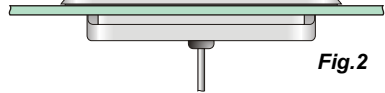

Fig.2
Step 2 - Connect the other module (MODULE “EN”) directly to a wi-fi router utilizing the included network cable and power adapter. (Fig.2)
Step 2 - Remove the double sided adhesive from the back of the spaside. Make certain the spaside is straight and adhere to the spa shell. (Fig.2)